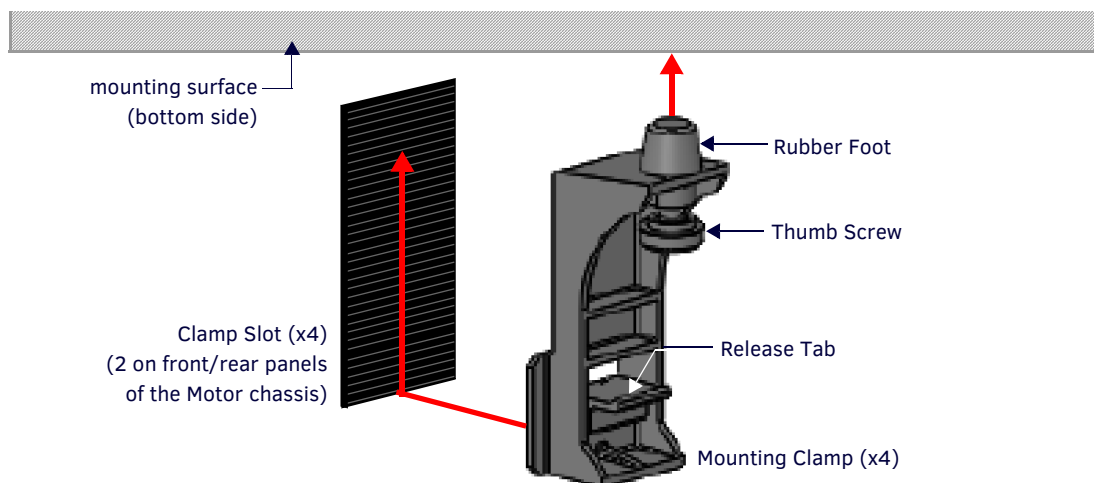

FIG. 15 Clamp Slots and Side Clamp (X4)
- a. Insert each Mounting Clamp into a ratcheted Clamp Slot from the bottom, and slide each clamp up as far as possible, until the rubber foot on each Clamp contacts the underside of the mounting surface (see FIG. 15).